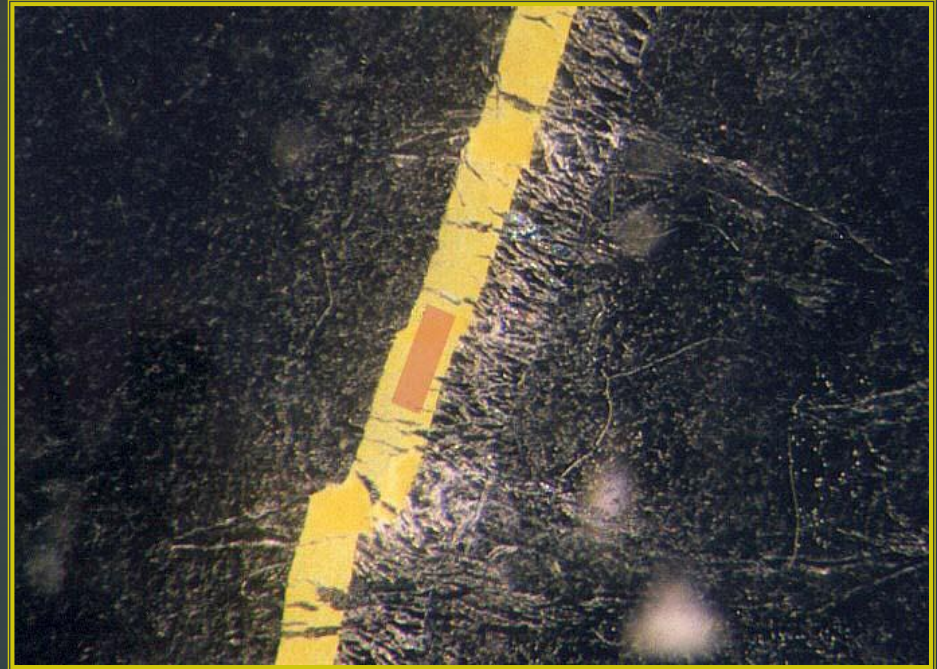

Figure 26 Microscopic examination of the cross section of a paint sample
- Paint samples are sometimes embedded with resins before cross-sectioning. Figure 26 shows a microscopic view of the cross section of a paint sample embedded with poly methyl methacrylate. The orange area indicates the aperture where the infrared spectrum is acquired.